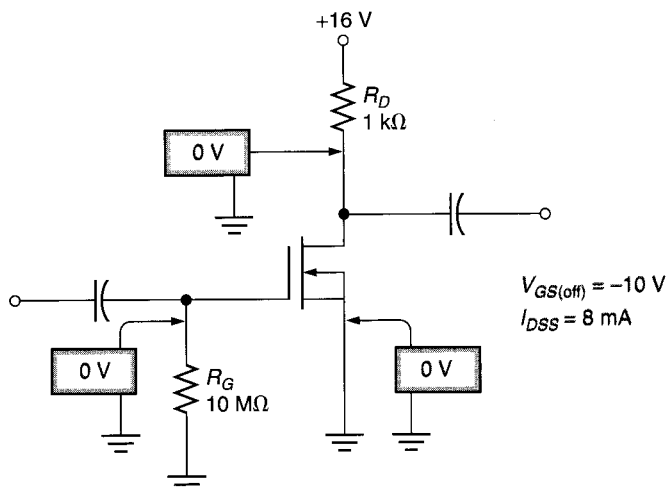

FIGURE 13.36
18. The circuit shown in Figure 13.36 has the dc voltages indicated. Discuss the possible cause(s) of the problem.